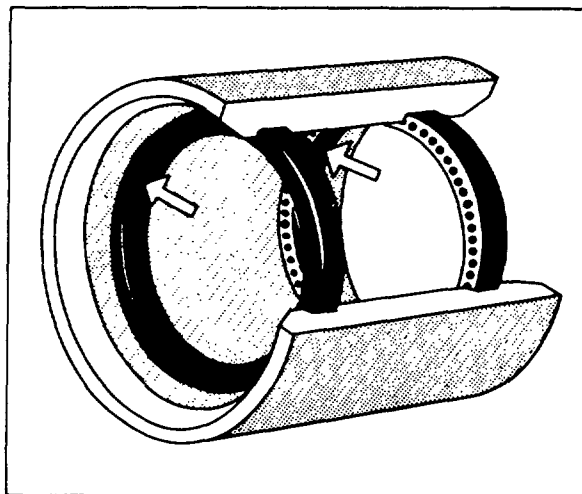

Figure 36
Certain-teed FLUID-TITE Couplings are easily assembled. The scientifically designed and patented rubber gaskets have tapered surfaces that allow the pipe to assemble easily — yet seal perfectly. (Figure 36).
- A. Place rubber gaskets inside coupling groove with holes facing center. After placing, run your finger along the inside edge of the gasket to insure that the gasket is properly seated in the groove. (Figure 36).